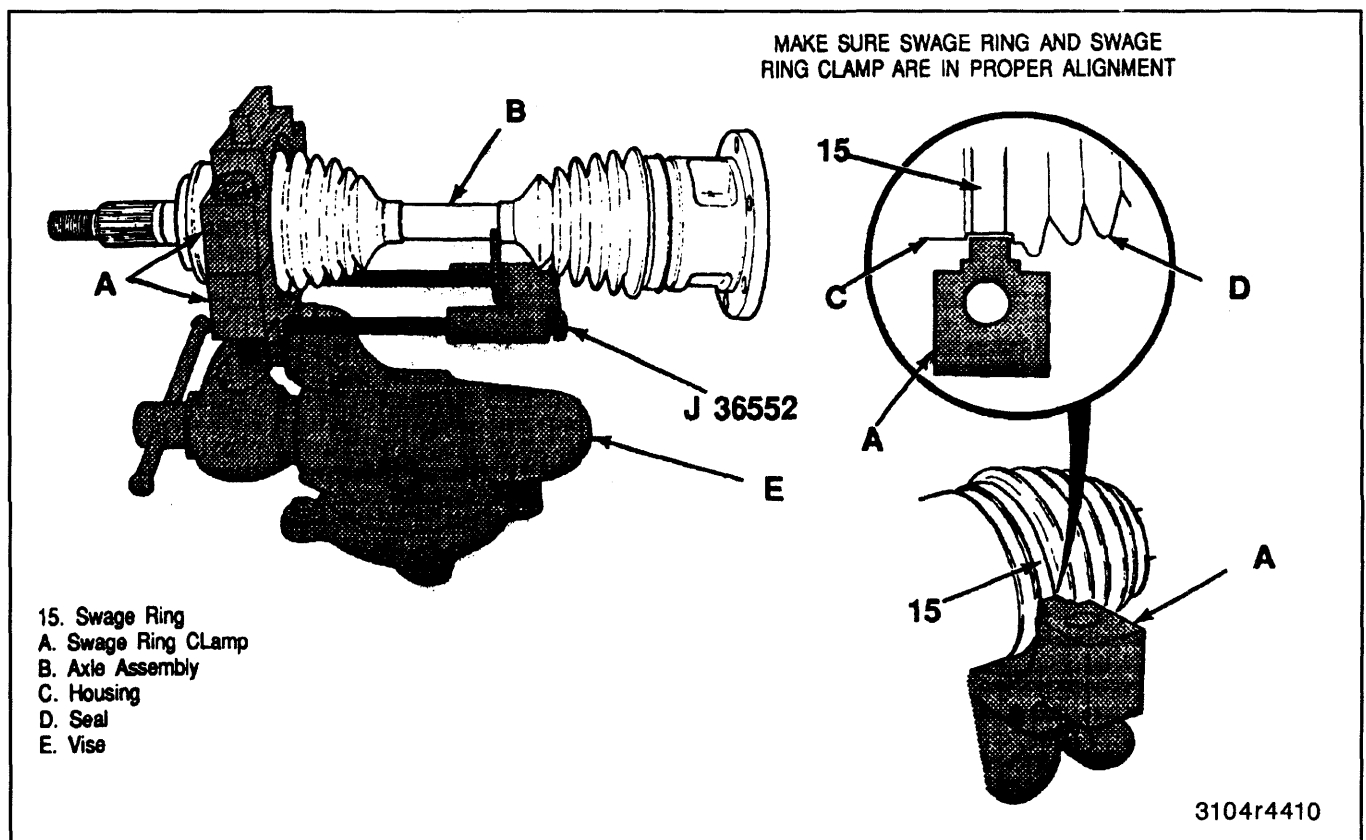

Figure 15—Installing Swage Ring
- C. Slide large diameter of the seal (12) with the large swage ring (9) in place over the outside of the C/V joint race (18) and locate the seal lip in the housing groove (figure 15).
- The seal (12) must not be dimpled, stretched or out of shape in any way. If the seal is not shaped correctly, carefully insert a thin flat blunt tool without no sharp edges between the large seal opening and the outer race (18) at maximum clearance of oval ring (9) to release the air. Shape the seal by hand and remove the tool.
- D. Refer to the chart in figure 15 and select the correct size swage clamp tool J 36652.
- Make sure the seal (12), housing (18), and swage ring (9) all remain in alignment (figure 15).
10. Return the swage ring (9) to position on seal (12).
- Refer to the chart in figure 15 and select the proper size swage clamp tool J 36652.
- B. Place the top half of the proper size tool on the lower half of tool and check for proper alignment and dimension (figures 15 and 23).
- Make sure that the seal, housing, and swage ring (15) all remain in alignment (figure 15).